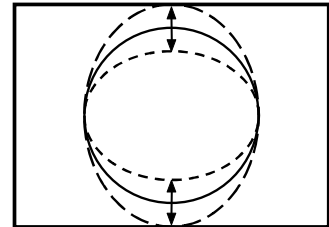

Fig. 7
- c) Adjust the vertical amplitude to obtain picture overscan (Fig. 7).